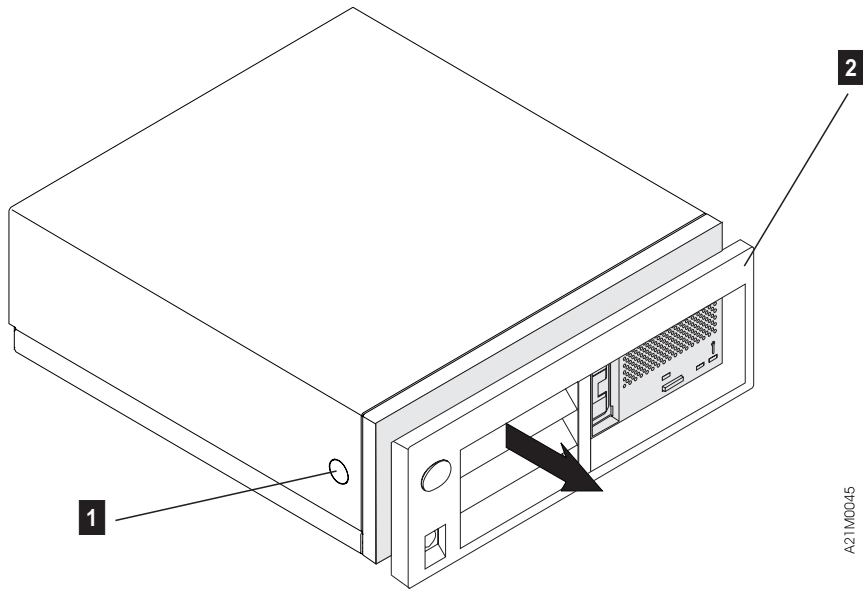

Figure 12. Removing the Front Cover from Model B00
- a. See Figure 12 on page 26. Remove front cover of the unit **2** by depressing the tabs **1** on each side of the enclosure and carefully pulling the front cover away from the subsystem.
**Note:** There is a corresponding tab on the opposite side of the chassis to the one show as **1** in Figure 12.